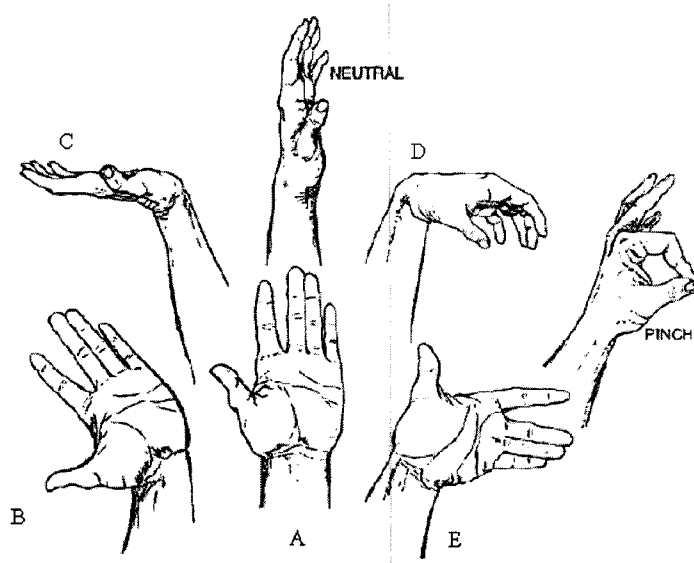

Figure 6: movement of hand
2.3. According to figure 6, describe the name of each movement and explain how does it affect to work- injury? (10 points)